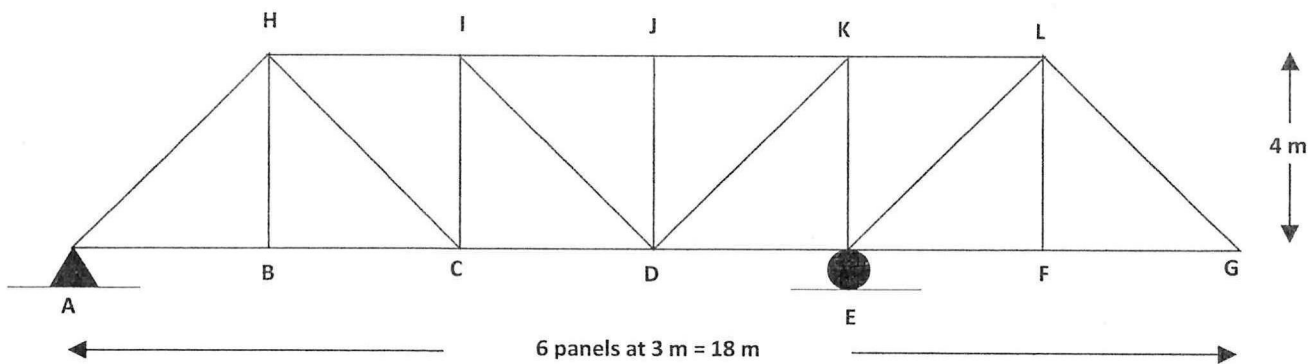
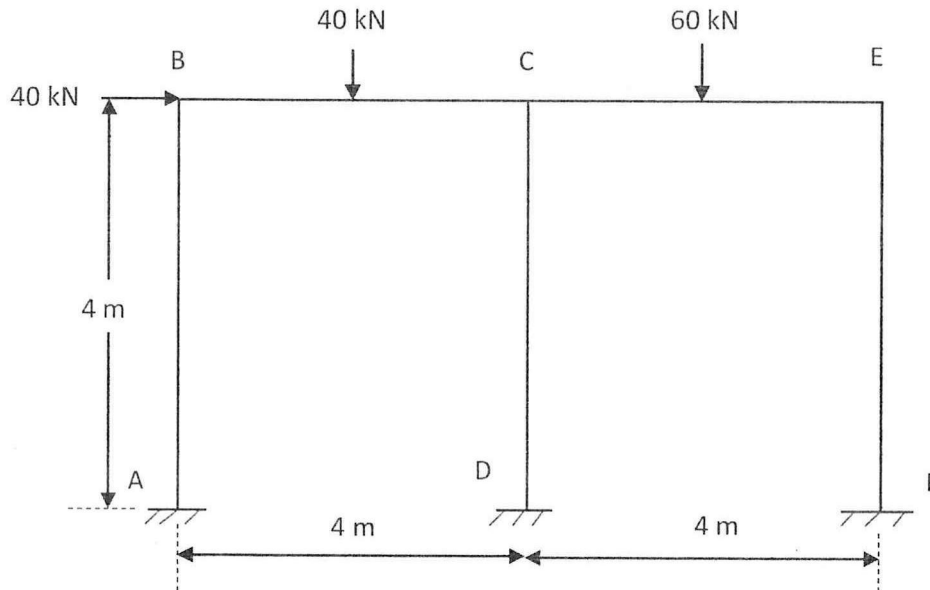

FIGURE Q3 (b)
FIGURE Q4 (b)
- (b) **Figure Q3(b)** shows a Pratt truss with pin and roller supported at point A and E, respectively. The span of each horizontal member is 3 m and the height of vertical member is 4 m.
- Q4** (a) Describe briefly **TWO (2)** advantages of plastic analysis. (9 marks)
- (b) **Figure Q4(b)** shows a two-bay frame fixed at its ends. Each beam and column has equal plastic moment of M_p . A horizontal point load of 40 kN acting on point B while vertical 40 kN and 60 kN each acting on mid-span of beams BC and CE. Determine the maximum plastic moment for the frame system. (21 marks)